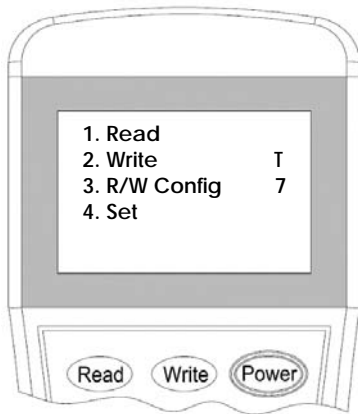

Figure 7
3. Switch-on the programmer, then press button **"4"** to enter to Setting mode (Figure 7).